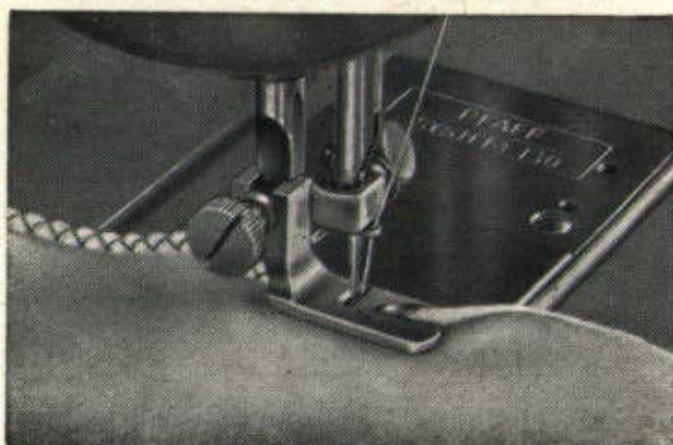

Fig. 41
31. Scalloped rolled hems (Fig. 41)